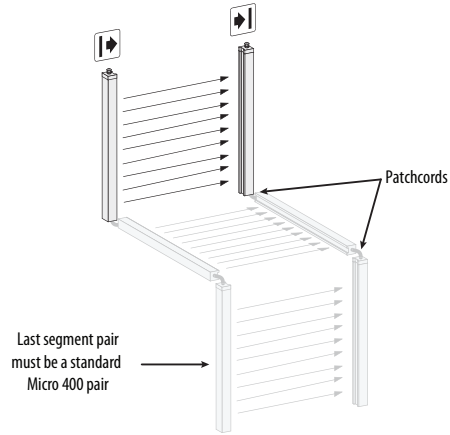

Figure 2: Up to three GuardShield Micro 400 segments can be interconnected. For limitations see text.
- 10 m maximum total length for light curtains, extension modules and connection cable combined (Figure 2)